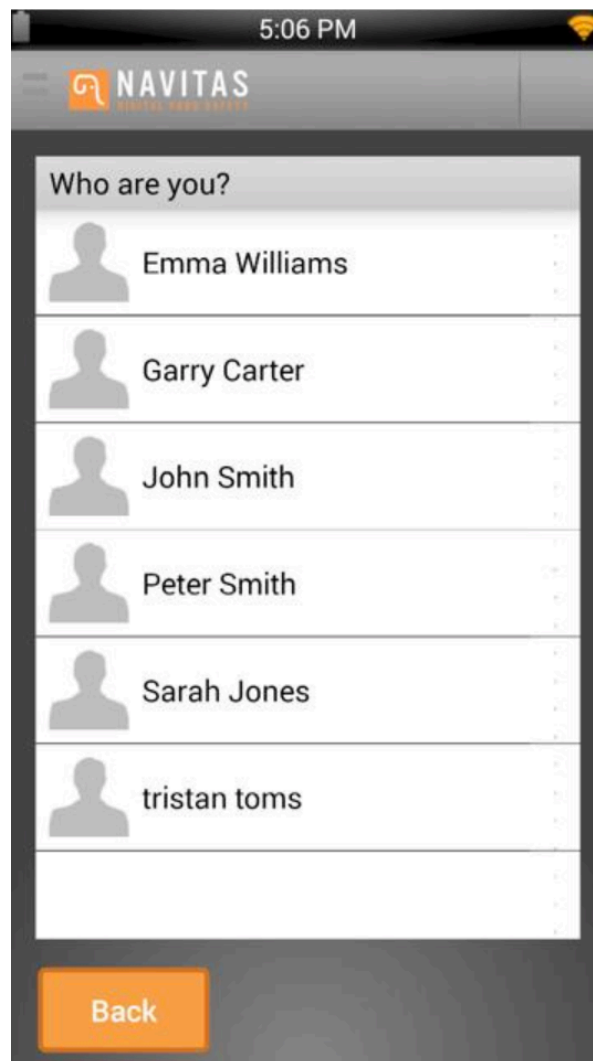

Fig. 13 – Staff selection screen.
2. Select the staff member (see Fig. 13).